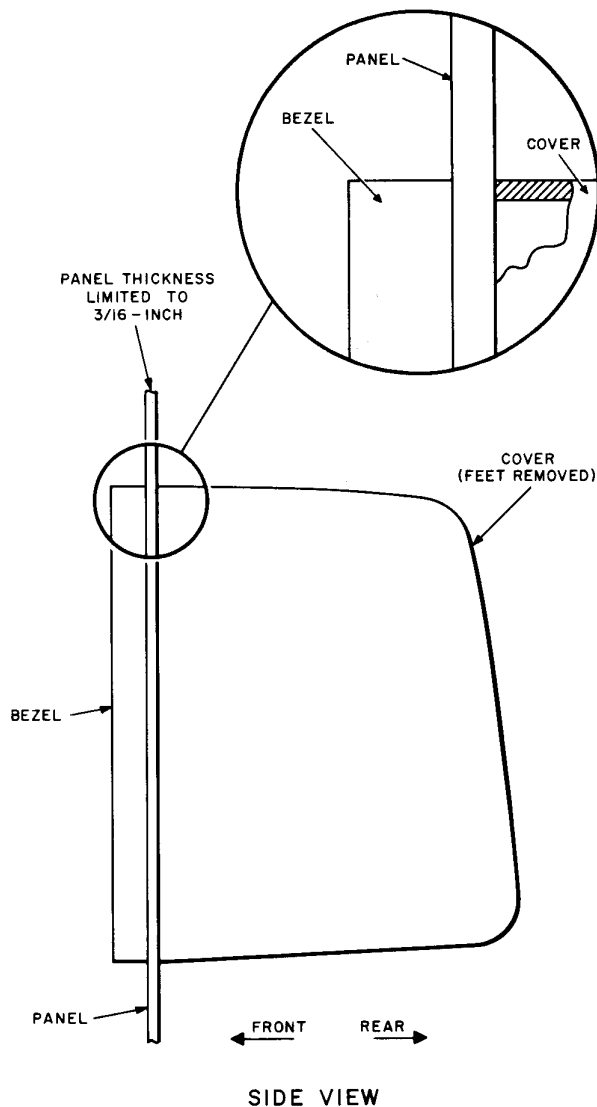
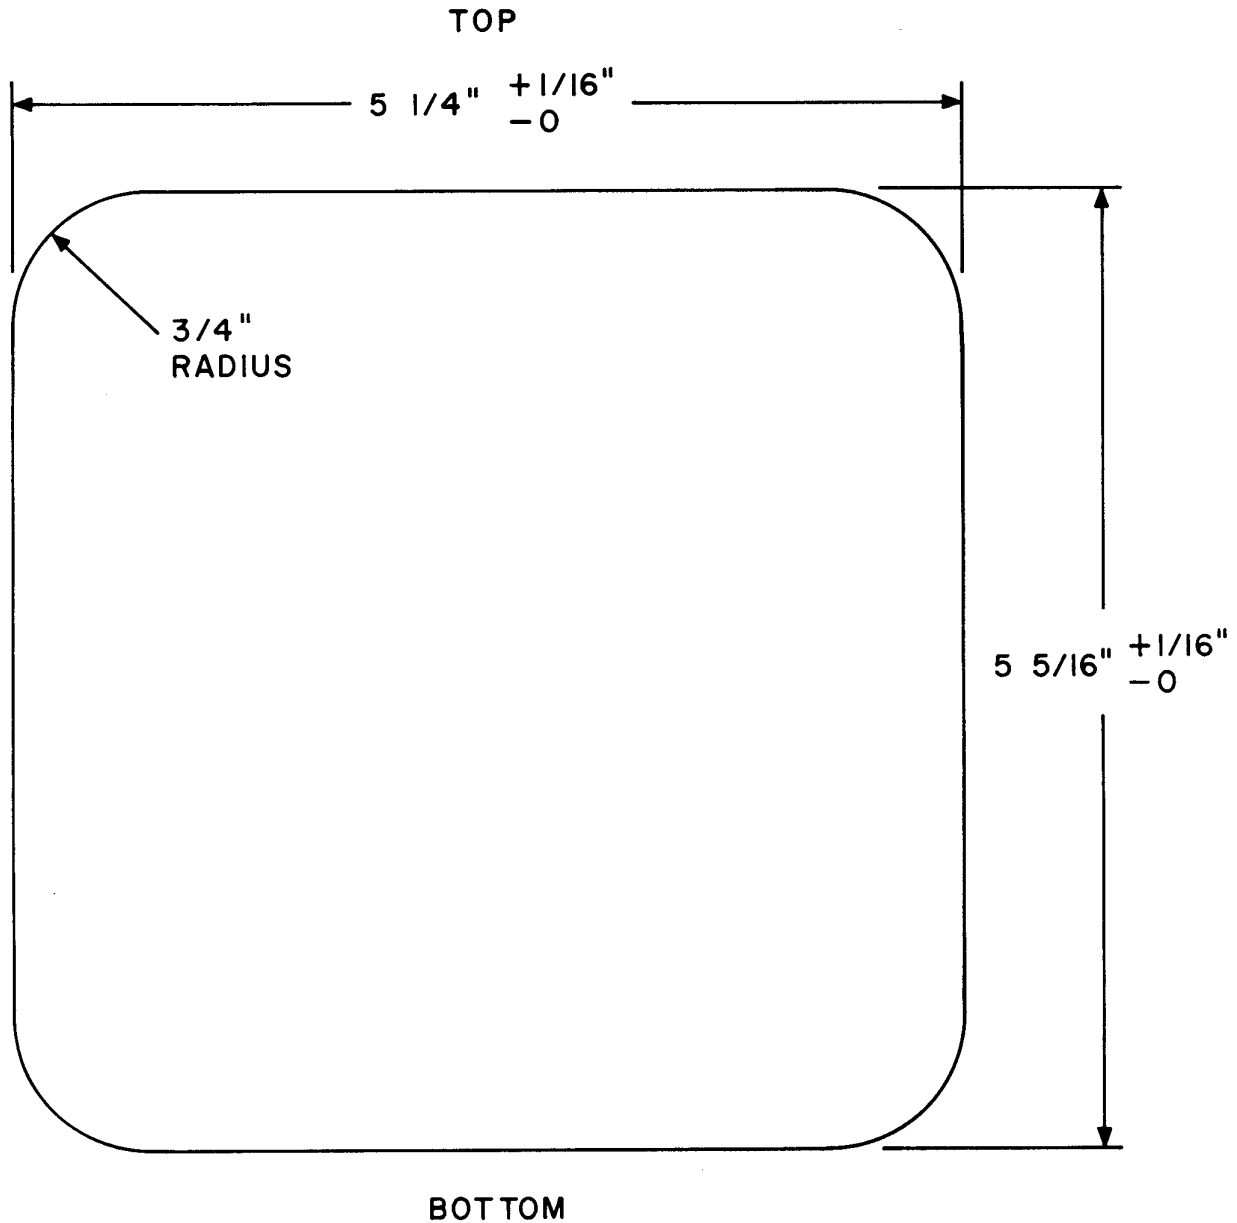

Fig. 6—106-Type Loudspeaker Set, Panel Mounted
Fig. 7—Panel Cutout Template
3.03 The loudspeaker may be panel mounted (Fig. 6). The cover is designed to hold the set in place, provided the panel is not over 3/16 inch thick. Loudspeaker with frame assembly is installed from front side of panel. Cover mounts on set at rear of panel. The edges of frame and cover act as a clamp on the panel when cover screws are tightened. If space is limited, the feet may be removed. Figure 7 illustrates the area to be cut out of the panel prior to installation.
3.05 For panel installations, refer to Fig. 7. Cut out area using suitable tools and install set as shown in Fig. 6.